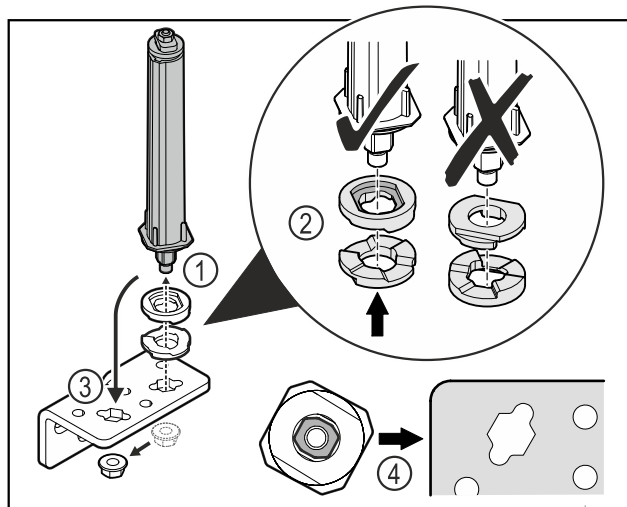

Fig. 34
- Loosen the nut and remove the door closing system Fig. 34 (1).
- Observe the correct alignment of the height adjustment washers Fig. 34 (2).
- Put the door closing system in the hinge and fix in place with the nut Fig. 34 (3).
- Observe the correct alignment of the door closing system when doing so Fig. 34 (4).